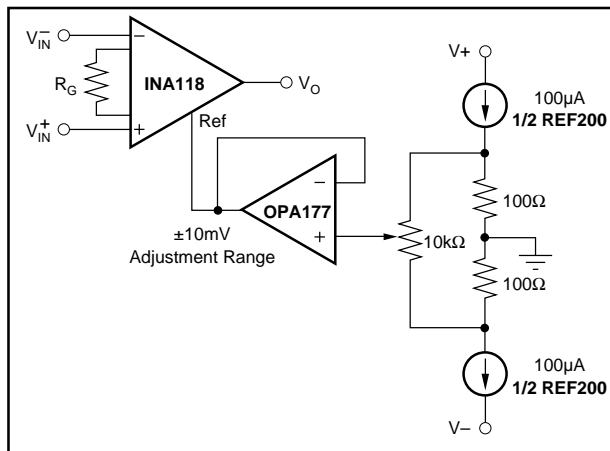

FIGURE 2. Optional Trimming of Output Offset Voltage.
The INA118 is laser trimmed for low offset voltage and drift. Most applications require no external offset adjustment. Figure 2 shows an optional circuit for trimming the output offset voltage. The voltage applied to Ref terminal is summed at the output. The op amp buffer provides low impedance at the Ref terminal to preserve good common-mode rejection.
(6) eB is measured at the lead tips with the leads unconstrained.
(7) N is the maximum number of terminal positions.
(8) Corner leads (1, 4, 5, and 8) may be configured as shown in Figure 2.
(9) For automatic insertion, any raised irregularity on the top surface (step, mesa, etc.) shall be symmetrical about the lateral and longitudinal package center-lines.